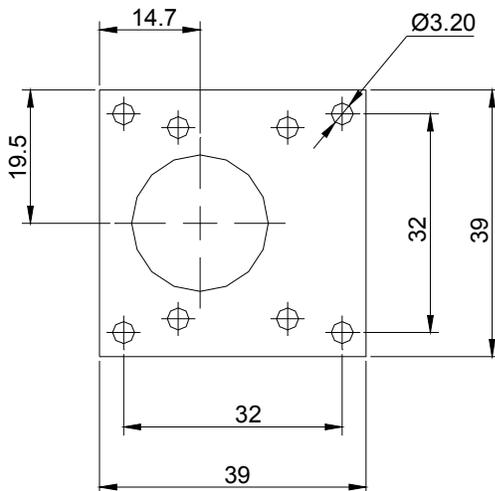
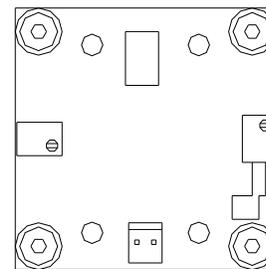
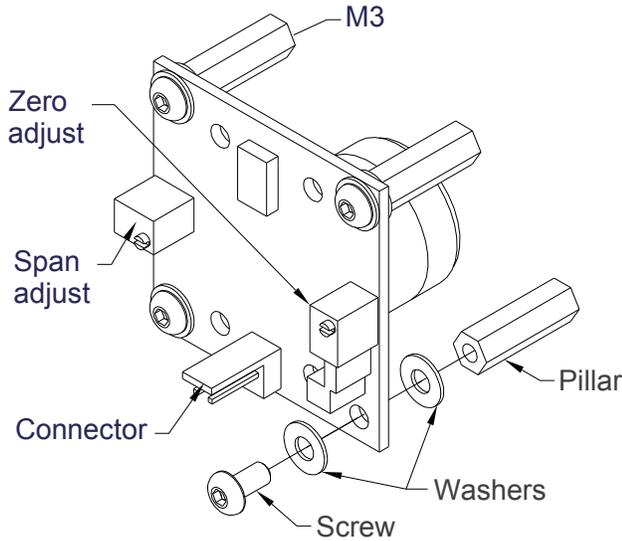

Figure 1. Mounting hole locations.
Figure 2. Inner and outer mounting holes.
Figure 3. Mounting pillar configuration for attaching to the lid of an enclosure.
**(Important note:** Ensure that a washer is fitted on **BOTH** sides of the PCB – see figure 3). Two sets of mounting holes are provided so that the assembly can be fixed to either the housing top, (using the locating holes in the corner of the PCB), or to the base of the housing, (using either set of locating holes – Note: Long pillars will be required for this configuration, Alphasense Pt No: 034-0005-00). Figure 1 below shows mounting hole locations (dimensions are in mm). Figure 2 diagrams the locating holes; normally the outer holes are used for mounting, while the inner holes are in the same location as the earlier issue of this PCB, allowing backward compatibility with the earlier PCB design.
The pillars are tapped to accept an M3 screw. We recommend a screw length that is at least 8mm to ensure rigid fixing. It is good practice to hold the pillar when screwing into the pillars to stop the pillar from rotating on the PCB. It may be easier to remove the sensor whilst screwing the circuit board pillars to your housing. If you move the pillars, ensure that, if mounting to the lid of your housing that you include the washer between the pillar and PCB to ensure correct height of the pillar assembly. See figure 3.
- 2 **Ambient air calibration** Either pump or allow clean air to diffuse to the sensor for ten minutes. Adjust the zero potentiometer (RP2: see figure 3) with a small screwdriver until the reading is within  $\pm 0.05$  mA of the Air Calibration Point shown in Table 3.